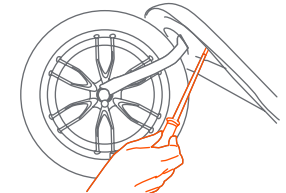

Fig. 26b
- Insert the 4 screws through the underside of the front frame assembly into the front fender's plastic tubes. Tighten the screws only until snug (Fig. 26b). **DO NOT OVER TIGHTEN.**